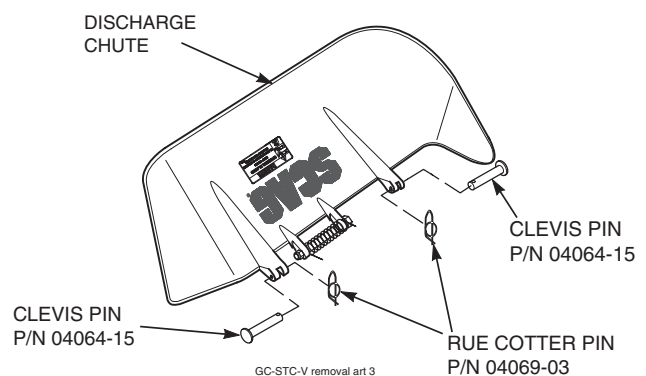

FIGURE 4-3
7. Re-install the side discharge chute to the opening on the cutter deck. Replace the two (2) outside mounting bolts on the discharge chute with the clevis pins (p/n 04064-15) and rue cotter pins (p/n 04069-03). See Figure 4-3.